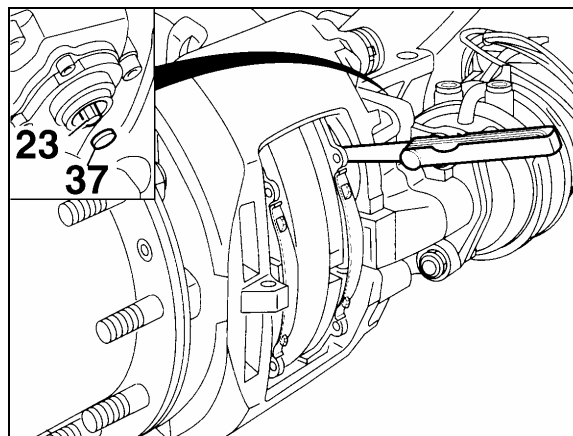

FIGURE 23: RUNNING CLEARANCE
- Remove cap (37, Fig. 23).
- Using a box wrench (8 mm), turn the adjuster pinion (23, Fig. 23) counterclockwise about 2 - 3 clicks to increase running clearance. By operating the braking system